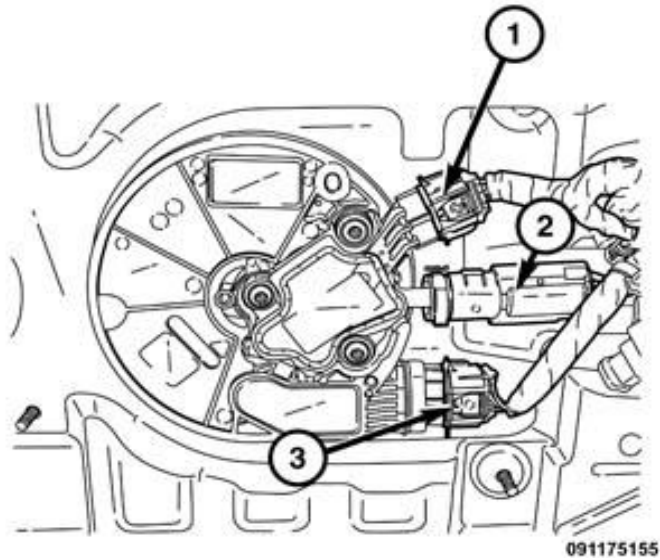

Fig. 7 DEF Pump
13. Disconnect the DEF pump wire harness connector (1), supply line (2). Refer to the detailed service procedures available in DealerCONNECT > TechCONNECT > 25 - Emissions Control/Diesel Exhaust Fluid Emissions/FITTING, Quick Connect/Standard Procedure) and level sensor/heater wire harness connector (3) (Fig. 7).